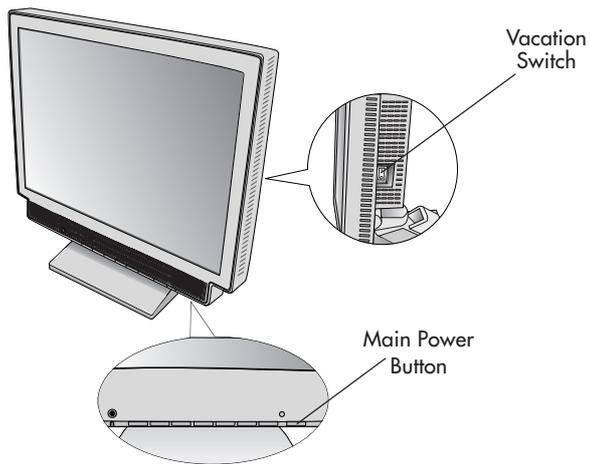

Figure F.1
7. The vacation switch on the right side of the monitor must be turned on (**Figure F.1**). Turn on the monitor with the front power button and the computer.